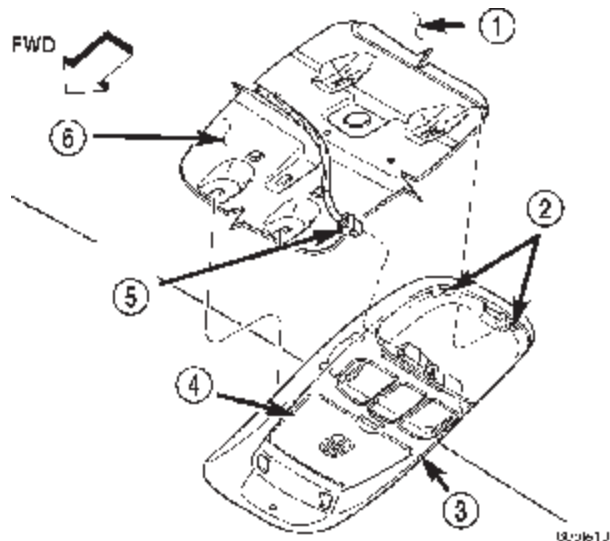

Fig. 5 Overhead Console Remove/Install
(4) Slide the overhead console rearward far enough to disengage the two mounting hooks on the rear of the housing from the mounting holes in the inner roof panel (Fig. 5).